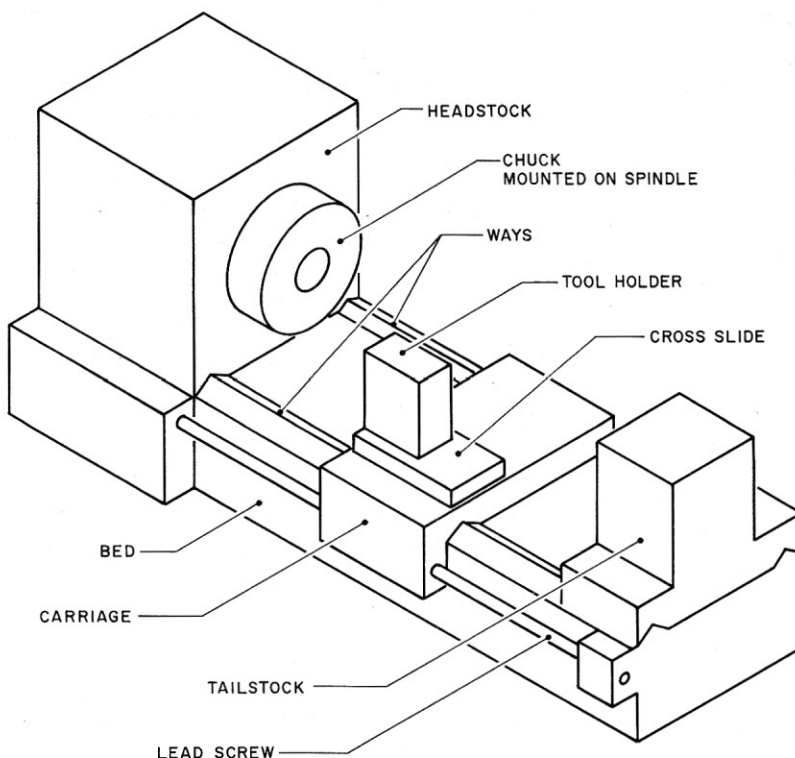

Figure 6. Basic lathe components.
**Engine Lathe.** The most common form of lathe. May be mounted either on a bench or pedestal. Sizes normally range up to 24 in. swing and 48 in. center distance. (Figure 6.)